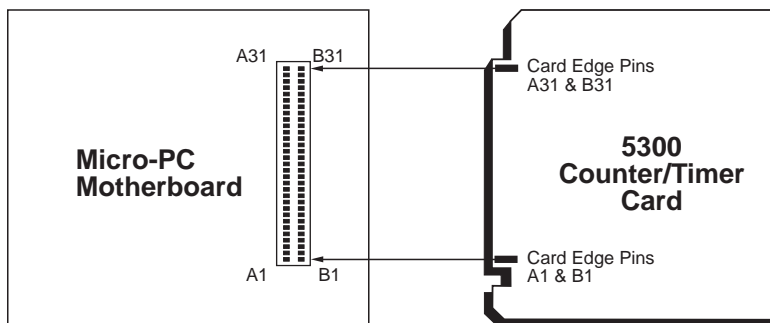

Figure 2-2—Card Edge Orientation
Take care to correctly position the 5300 in the card cage. The V_{CC} and ground signals must match those on the backplane. Figure 2-2 shows the relative position of the 5300 as it is installed in the card cage.
3. Slide the card into the card cage. The components on the card should face to the left. The lettering on the card (Octagon Systems Corp.) should be on the top edge of the card and the gold contact fingers toward the backplane. (See Figure 2-2)